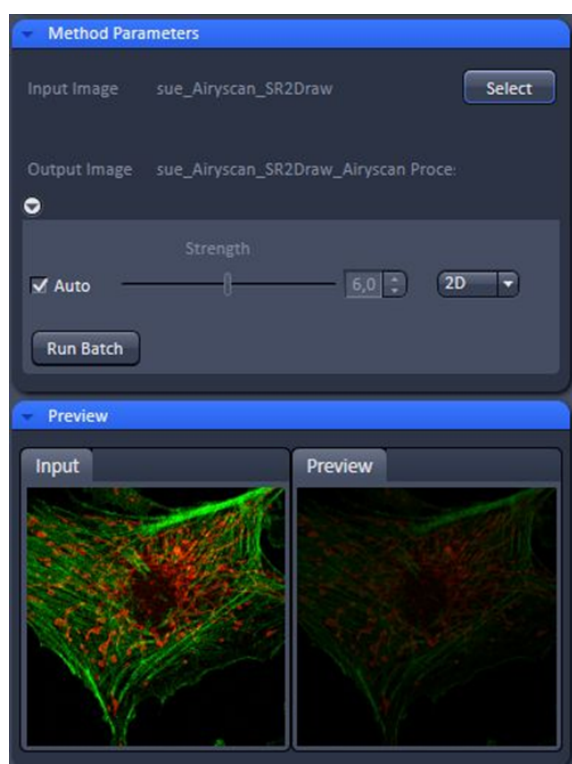

Fig. 253 Airyscan Processing tool: Method Parameters, Auto
For changing the parameter, uncheck the **Auto** function and use the slider or editing box to set a new value (Fig. 253).
- Klick on the open image you want to process and press **Select** (Fig. 253) in the method parameters dialogue. Make sure the right image is visible in the input window.